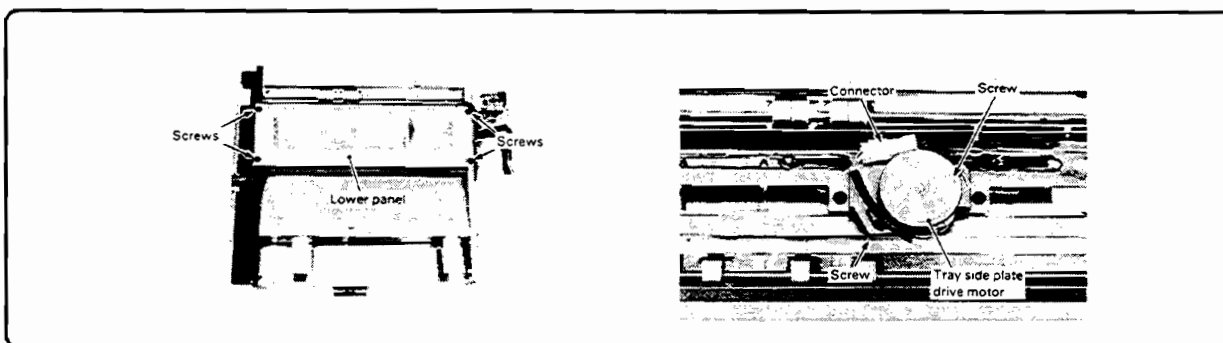

Figure 6-155. Side Plate Motor Removal
2. Remove the four screws and the lower panel (Figure 6-155).
3. Unplug the connector, remove the two screws, and the tray side-plate motor (Figure 6-155).
2. Remove four screws and detach the lower panel (Figure 6-155).